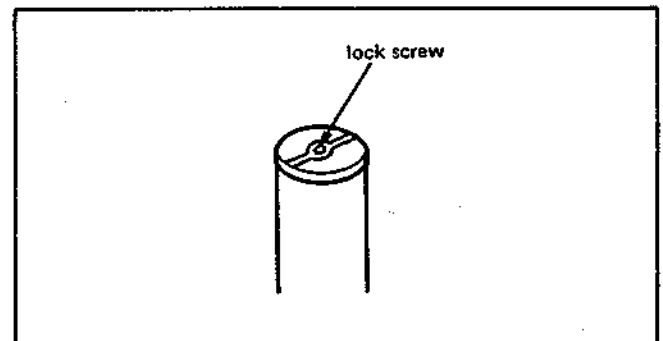

Fig. 4-13
- 6) Turn No. 5 guide lock screw counterclockwise to loosen. (Fig. 4-13)